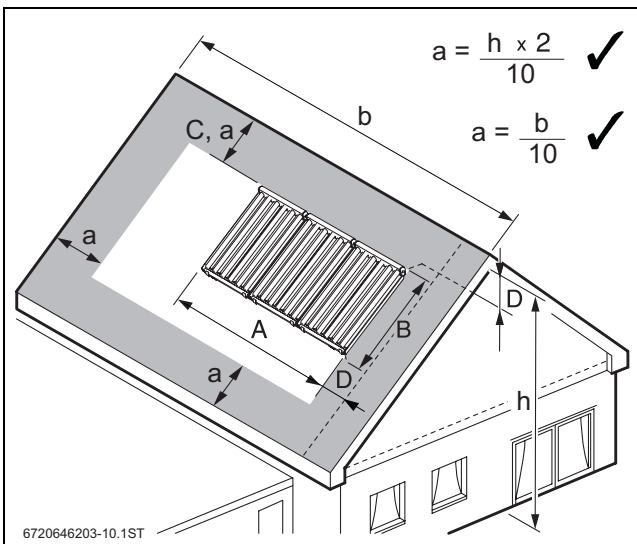
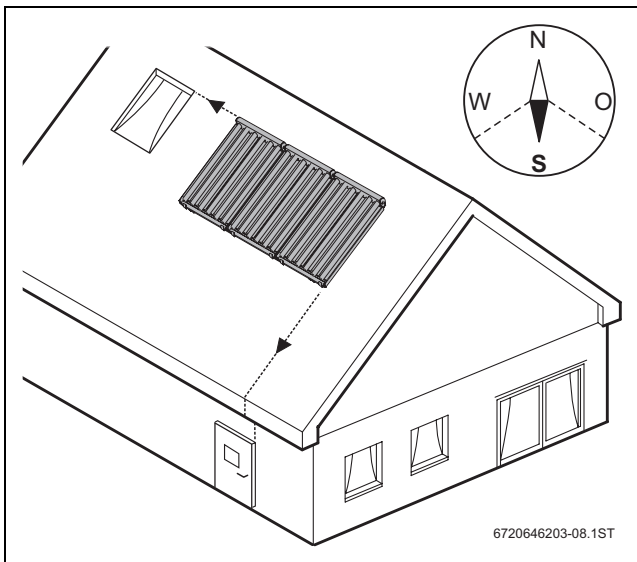

Fig. 9 Minimum clearances of the collector array
Fig. 13 Aligning the collector array to the building's shape
The space requirement is determined by the installation area of the collector array (→ Tab. 9). When siting the collector array ensure that the minimum are maintained (→ Fig. 9).
- Arrange collectors on the roof in an appealing pattern, for example, so that the collector array is in line with windows and doors (→ Fig. 13). However, observe the minimum clearances towards the edge of the roof for this (→ Fig. 9, page 9).
- Align the collector array facing south, wherever possible (→ Fig. 13).